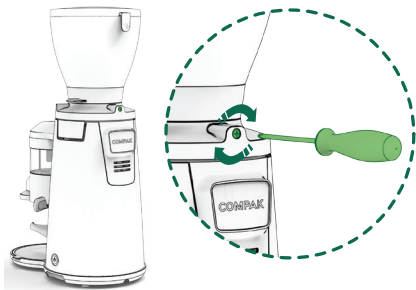

Fig. 2
8.1.2 Lock the hopper (2) in place using a phillips head screw driver to gently tighten the hopper security screw making it match to the hole at the bean hopper collar (3) (Fig. 2).